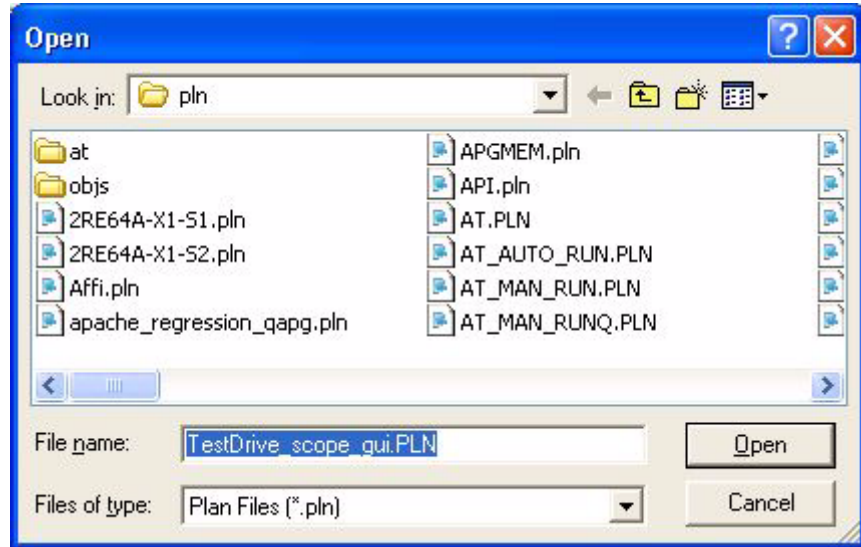

Figure 5-38. Select Test Plan Dialog Box
- Selecting the `Test Plan` button displays the Open dialog box (Figure 5-38) that lists the available plan files. Test plan files define the tester setup that is used. The `TestDrive_scope_gui.PLN` plan file will be used for this example.